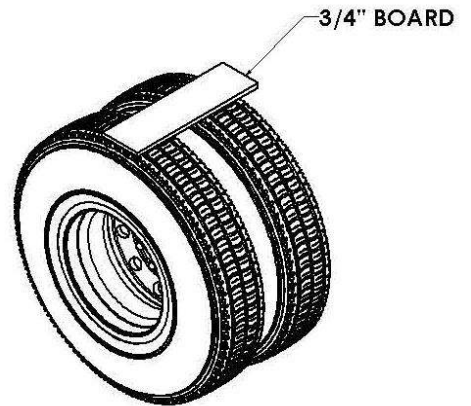

Figure 2
- a. For an air suspension system, place a  $\frac{3}{4}$ " board on top of the tires after the air has been let out of the airbags (Figure 2). Place the fender on top of the board.